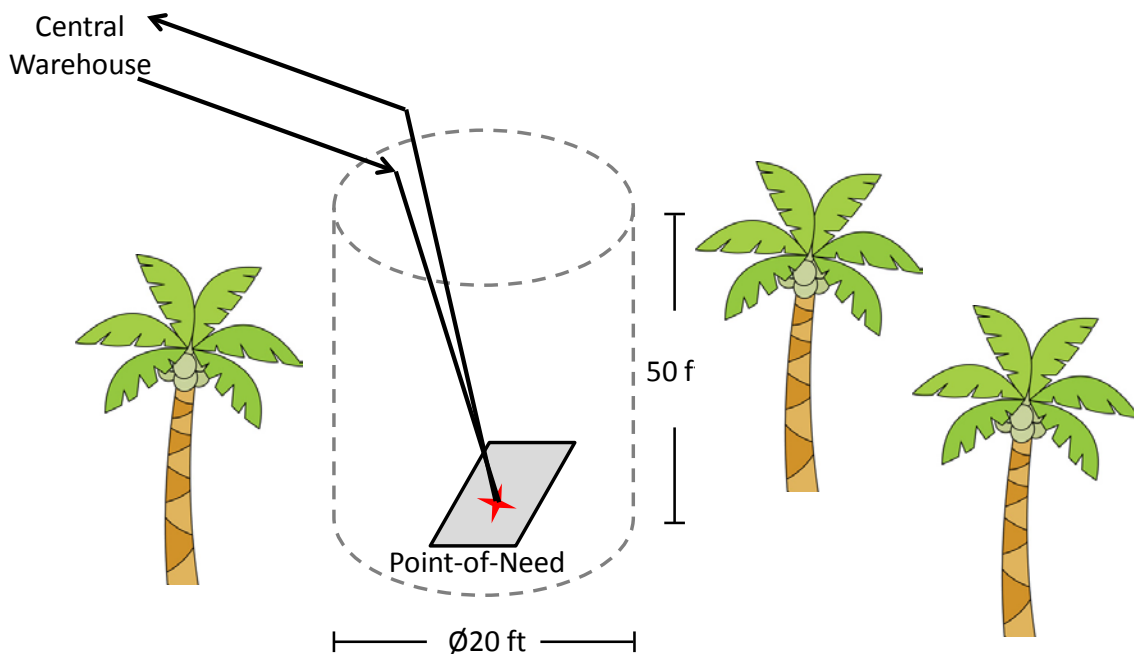

Figure 1: Safe approach/departure corridor near point-of need
2.2.1.4 Precision Departure, Approach and Hover. The vehicle shall be capable of operating to and from a landing spot by transiting an unimpeded airspace region defined by a cylinder 10 ft radius and 50 ft in height as depicted in Figure 1. The vehicle shall also be capable of hovering for 1 minute, while remaining within that cylinder, and placing the payload within 95% circular error probable of not more than 2 ft radius of the designated delivery point, with winds at 10 knots gusting to 15 knots.